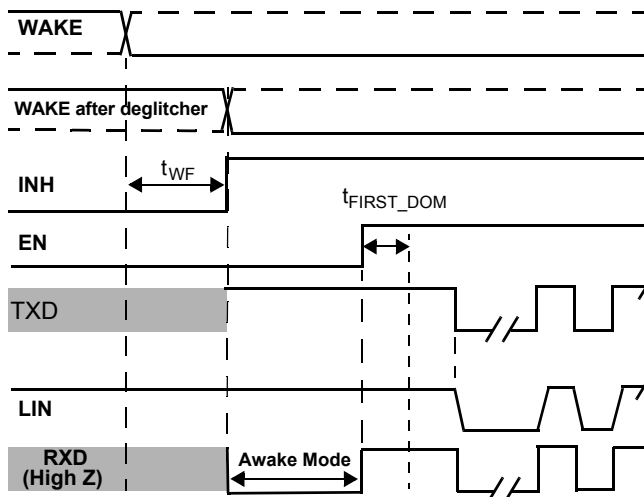

Figure 15. WAKE Pin Wake-up with TXD High
28. See Figure 15, 18, Figure 25 and Figure 26
An internal filter is implemented to avoid a false wake-up event due to parasitic pulses (See Figure 15 and 18). WAKE pin input structure exhibits a high-impedance, with extremely low input current when voltage at this pin is below 27 V. Two serial resistors should be inserted in order to limit the input current mainly during transient pulses and ESD. The total recommended resistor value is 33 k $\Omega$ . An external 10 to 100 nF capacitor is advised for better EMC and ESD performances.